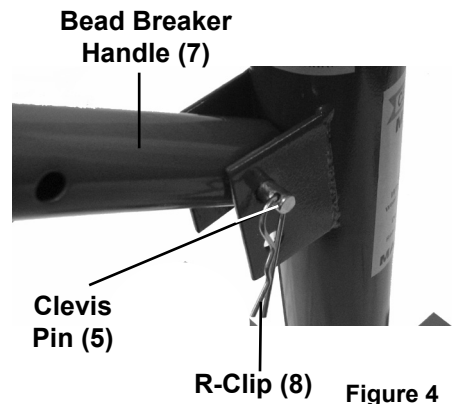

Figure 4
- Place the end of the Bead Breaker Handle (7) in the bracket on the side of the Center Post until the hole on the Handle's end aligns with top or bottom holes of the bracket (depending on the size of the tire.)
- Slide a Clevis Pin (5) through the bracket and Bead Breaker Handle, securing it using the R-Clip (8). See Figure 4, below.